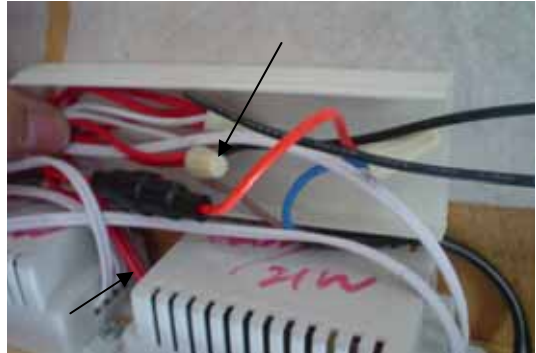

Fig.13
- 1.Open the wire box, unscrew the red cap of input wire , and take out input wire (Fig.13).